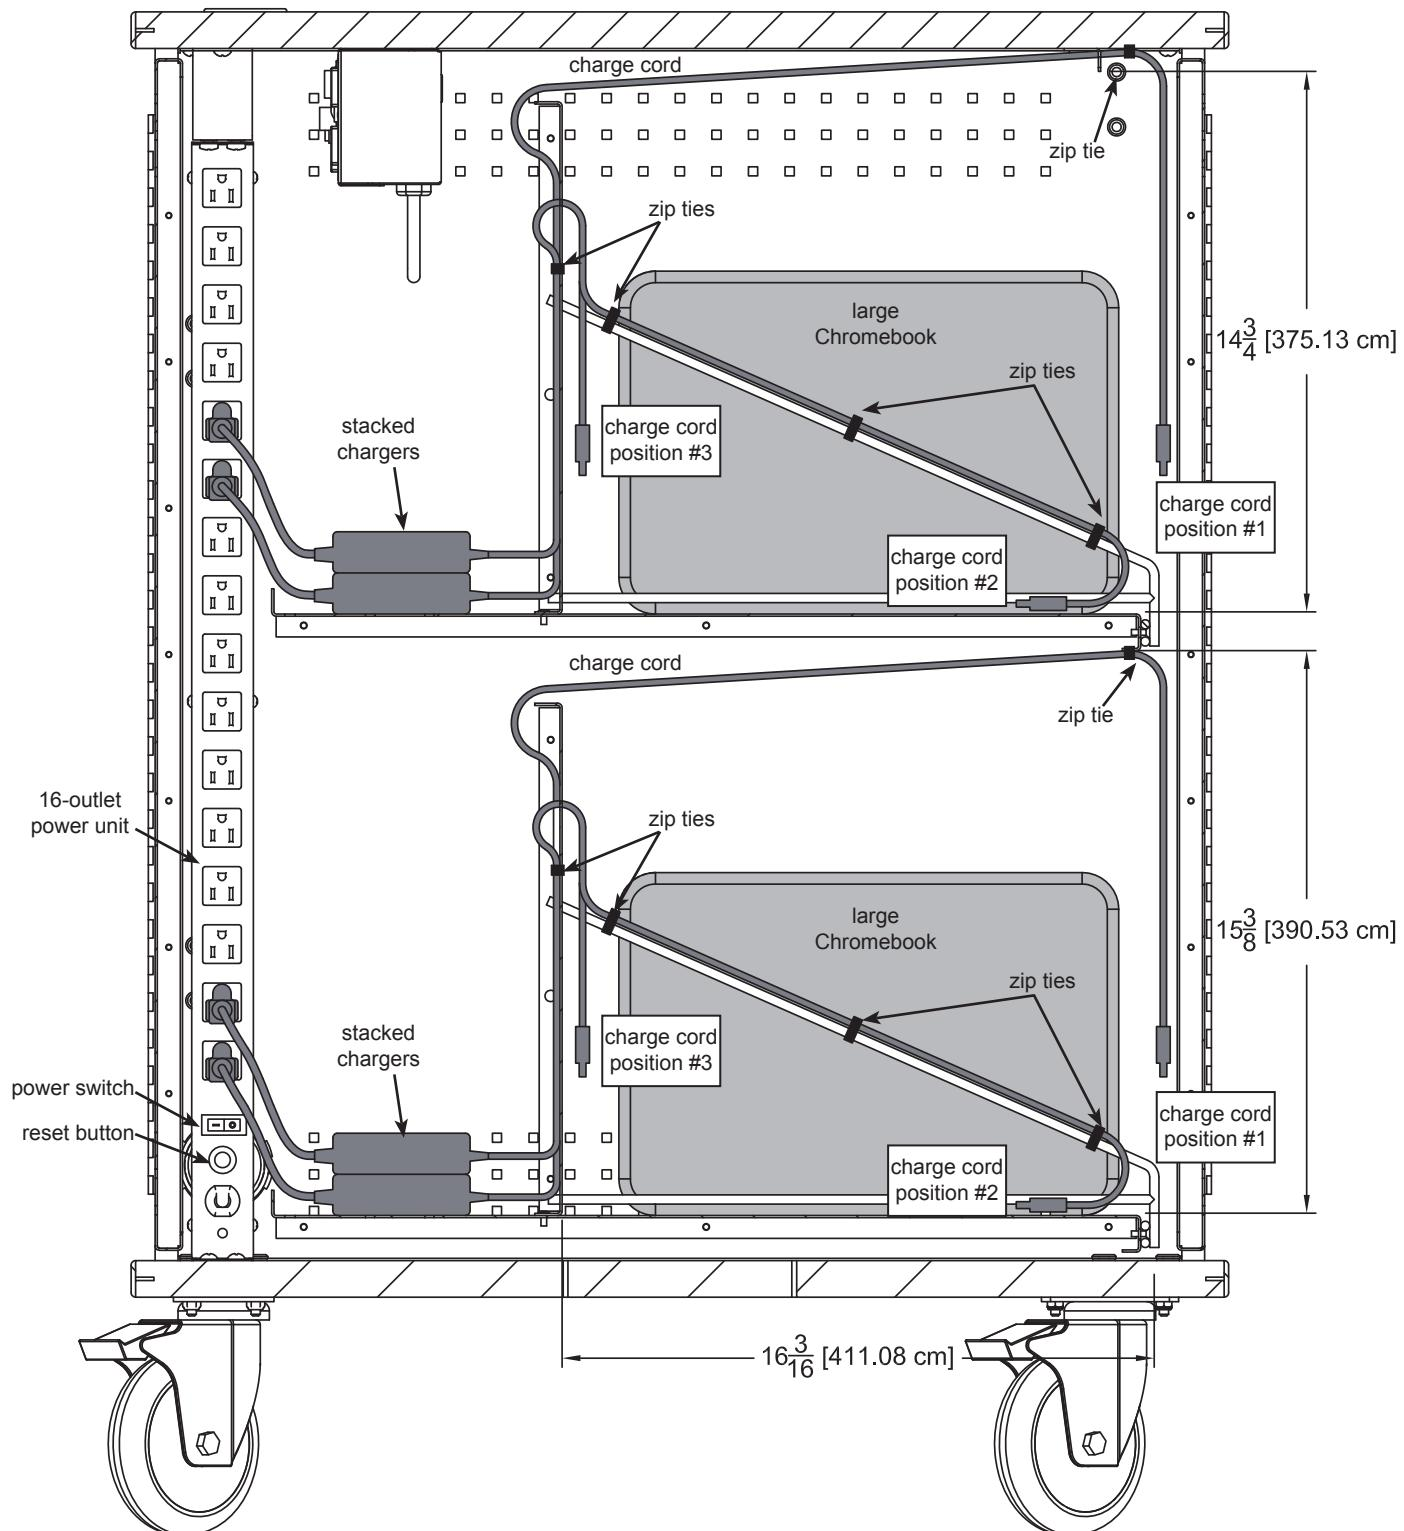

Figure 5
3. Charge cords can be routed to the Chromebooks several different ways depending where the charge jacks are located on your Chromebooks. **Figure 5**. Cords can be anchored with the included zip ties as shown.